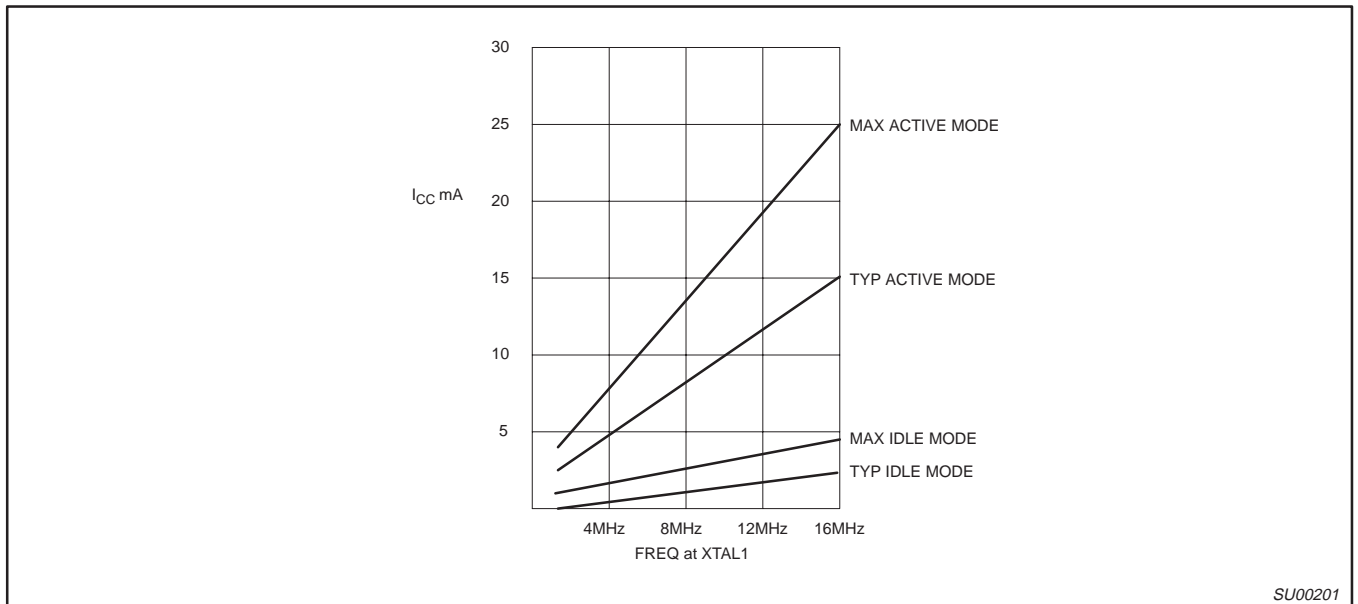

Figure 12.  $I_{CC}$  vs. FREQ (Commercial Temp. Range)
- $I_{CCMAX}$  at other frequencies is given by: Active mode;  $I_{CCMAX} = 1.43 \times \text{FREQ} + 1.90$ ; Idle mode;  $I_{CCMAX} = 0.14 \times \text{FREQ} + 2.31$ , where FREQ is the external oscillator frequency in MHz.  $I_{CCMAX}$  is given in mA. See Figure 12.